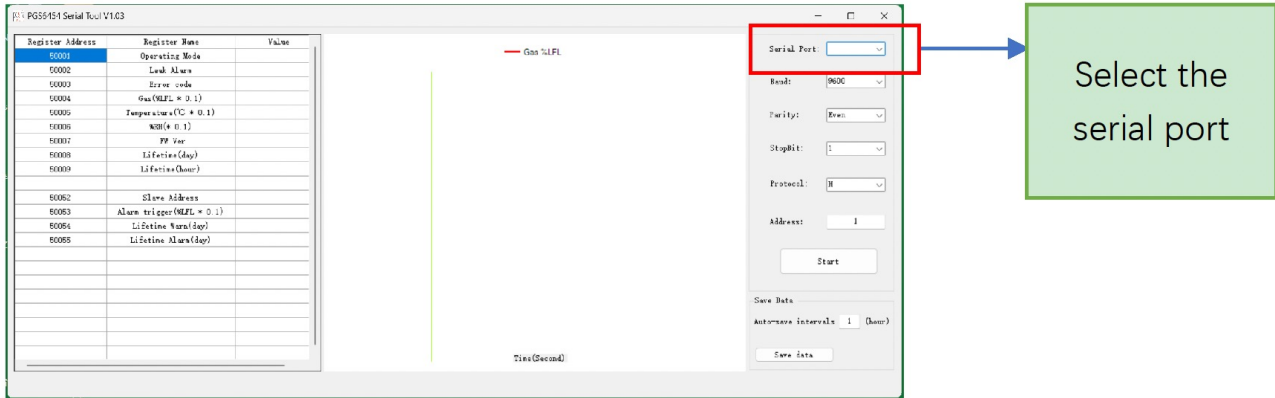

Figure 2
- Open the software as shown in Figure 2